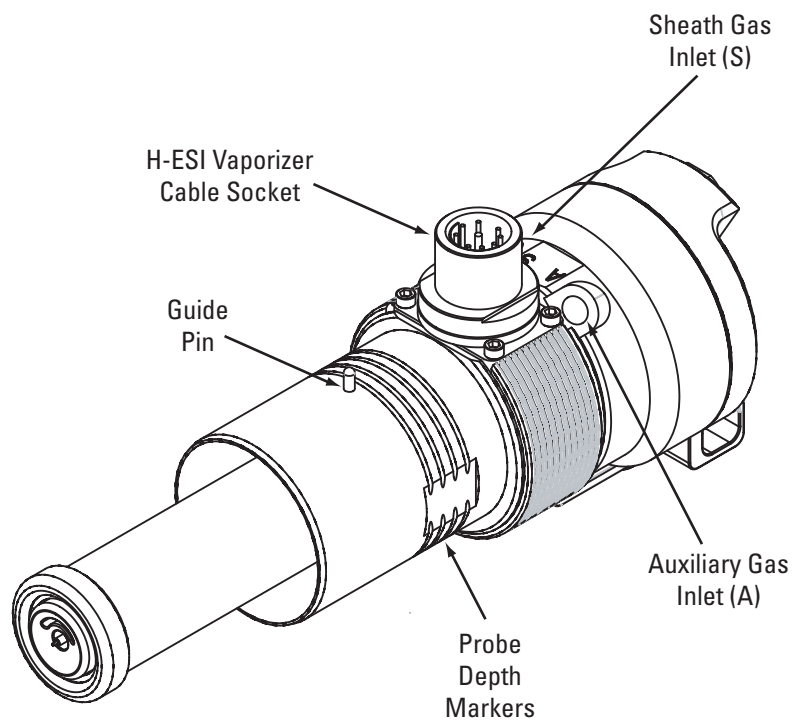
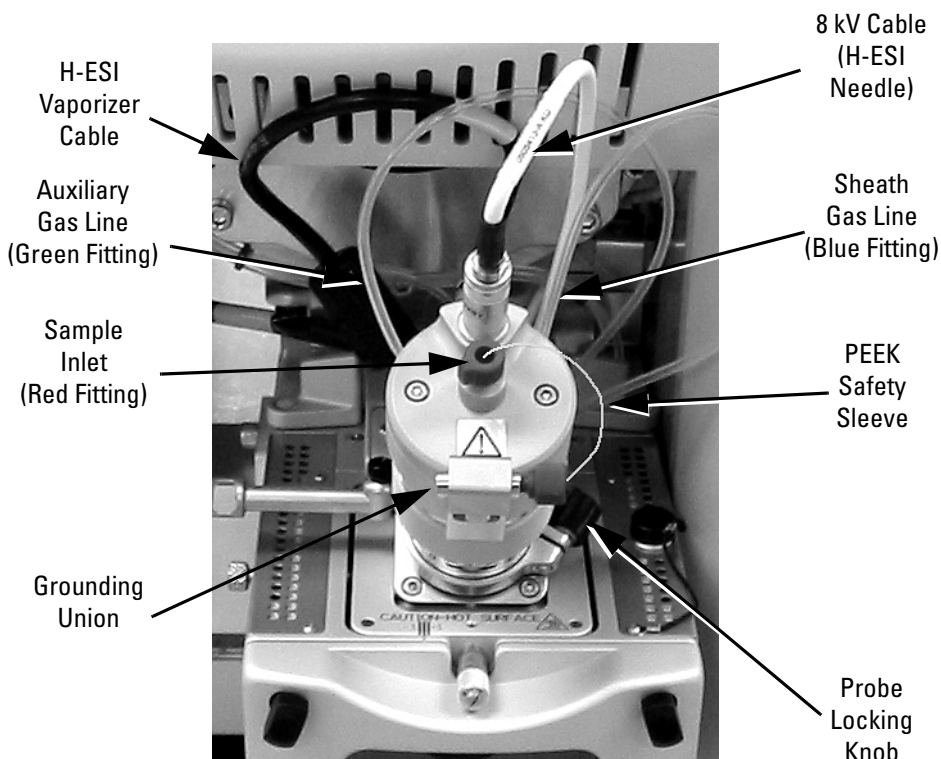

Figure 2-11. H-ESI probe, front view
Figure 2-13. H-ESI probe installed in the Ion Max housing
3. Insert the H-ESI probe into the port in the ion source housing, align the guide pin (see Figure 2-11) on the probe body at a minus 45 degree angle from the ESI interlock block.
8. Connect the sheath gas fitting (blue) to the sheath gas inlet (S) on the probe manifold. See Figure 2-11 and Figure 2-13.
9. Connect the auxiliary gas fitting (green) to the auxiliary gas inlet (A) on the probe manifold. See Figure 2-11 and Figure 2-13.
11. Connect the H-ESI vaporizer cable to the vaporizer cable socket on the H-ESI probe. See Figure 2-11.